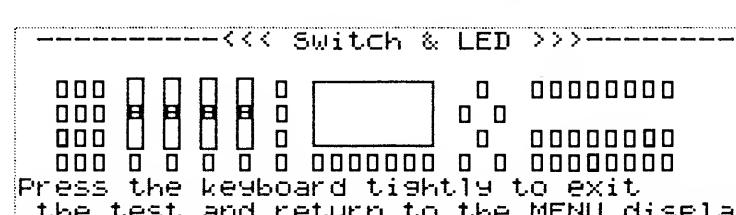

Fig.5
- The LCD shown in figure 5 will appear.